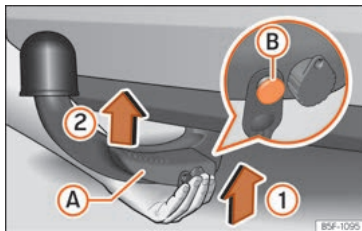

Fig. 295 Fitting the detachable ball / Release bolt in the deployed position.
- Grip the detachable ball **from below** » **Fig. 295** and insert it into the hook housing following the direction of arrow ① until it engages audibly » **△**.